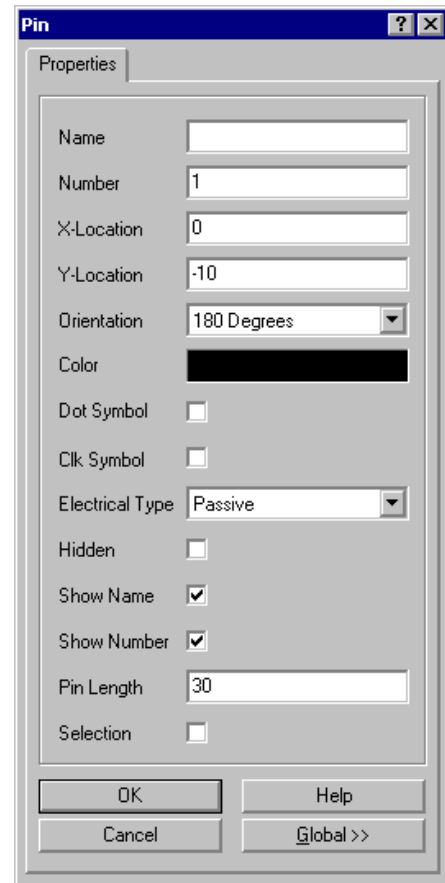

Figure 20 Pin dialog box
2. Complete the component as per Figure 20.